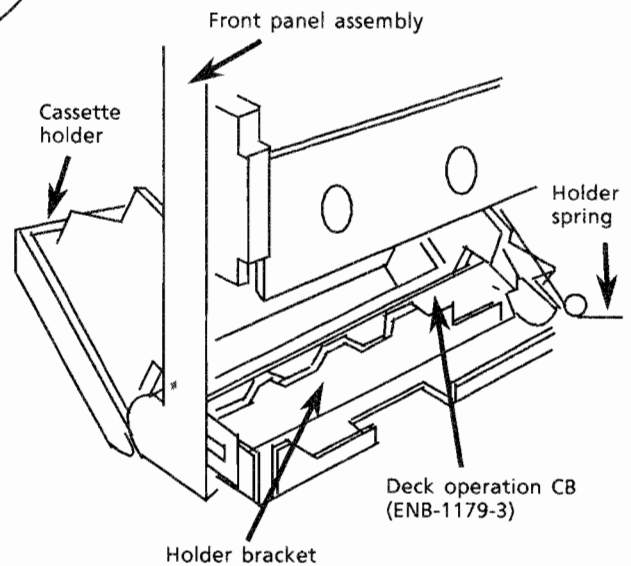

Figure6
2. Remove the holder springs (Figure 6).
2. Remove the 2 screws ① fixing the circuit board to pull out the circuit board upward.
■ Removing the deck operation circuit board (ENB-179-3: Figure 6)